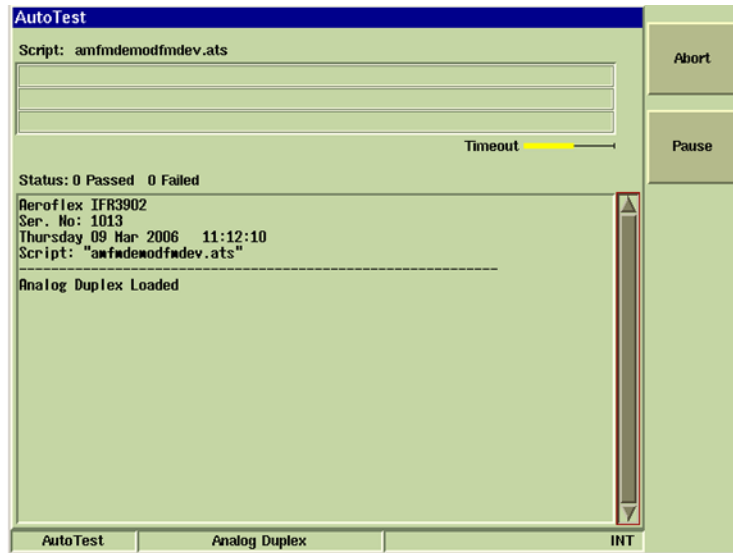

Fig. 5-3 AutoTest - Test in Progress
4. After screen loads, press [\[Script\] Soft Key](#) to begin test. Fig. 5-3 shows an example of the AutoTest Tile with a test in progress.